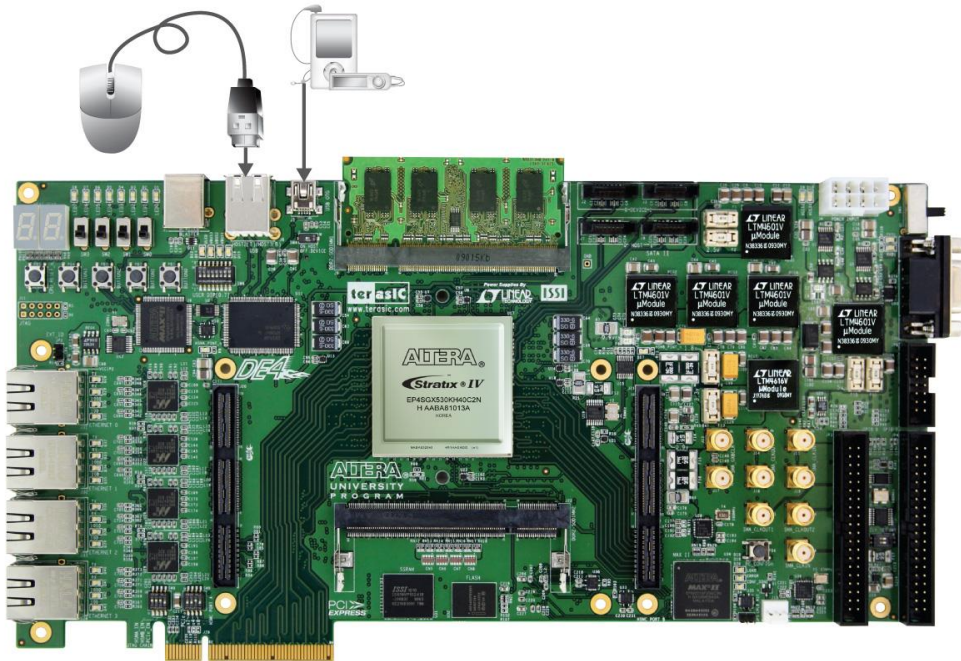

Figure 5-5 Plug USB-Devices into DE4
- Plug USB mass-storage device or HID USB-Mouse into the USB ports in DE4, as shown in Figure 5-5.